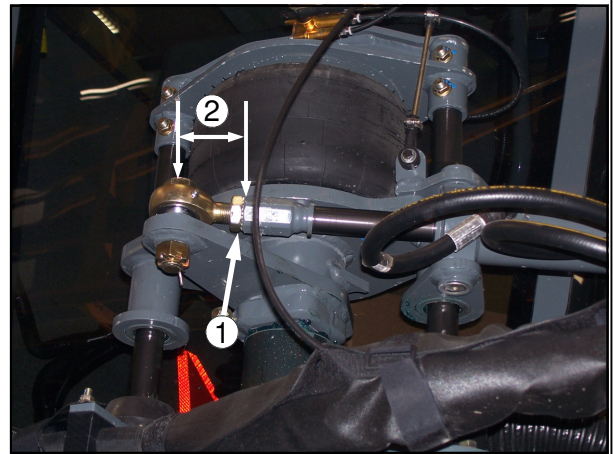

FIG 6.21-1
2. Loosen jam nut (fig. 6.21-1).
3. Screw swivel assembly in or out on steering cylinder until the measurement from the center of the rod end to the collar (fig. 6.21-1, item 2) is the same on both of the front steering cylinders.